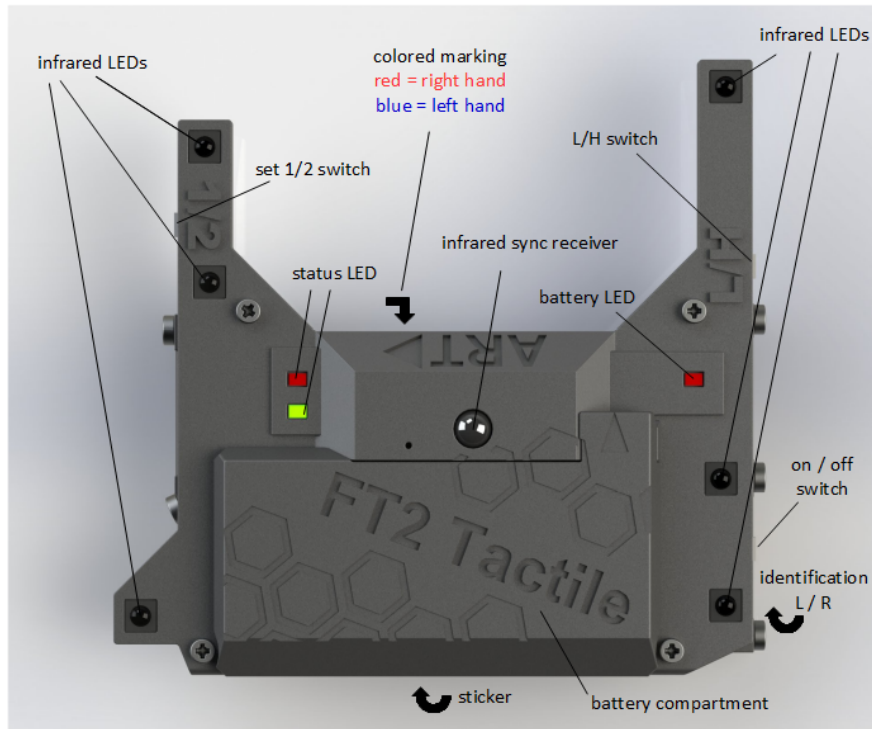

Figure 5.36: *FINGERTRACKING2* and *FINGERTRACKING2 Tactile* hand target
- a hand target unit for fixing on the back of the hand with IR LEDs (active markers) for tracking (see figure 5.36 on page 93).
The black sphere on top of the *FINGERTRACKING2* & *FINGERTRACKING2 Tactile* hand targets is a receiver for the coded IR flash (i.e. modulated infrared signal) which is used for synchronization (see figure 5.36 on page 93). This coded signal can be generated by all *ARTTRACK* cameras (*DTRACK3* is required). In some cases (discontinued products)